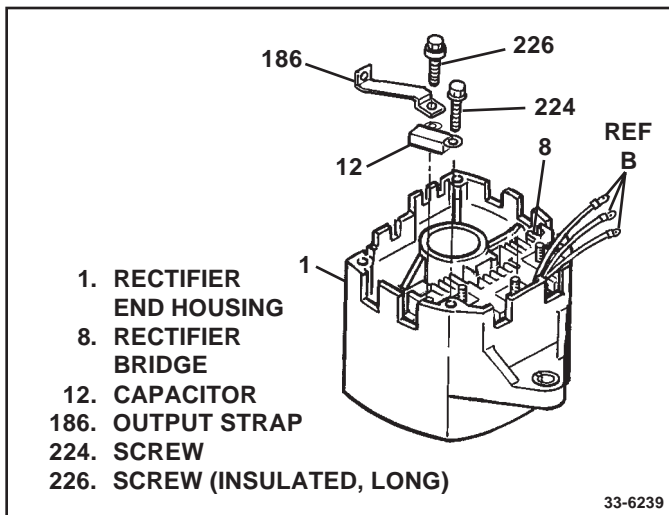

Figure 32. Installing Output Terminal and Capacitor
11. Capacitor (12) to holes in end of rectifier bridge (8) (Fig. 32) Install ground screw (224) through capacitor (12), grounded heat sink, and into RE housing. Finger tighten.
12. Output strap (186) over insulated rectifier and capacitor holes. (If new output terminal assembly, install per instructions in package.)
13. Insulated capacitor attaching screw (226), through output strap (186), capacitor connector (12), and into RE housing. Finger tighten.